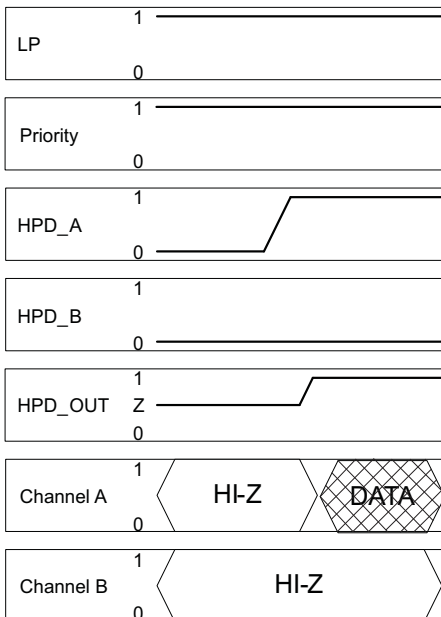

Figure 38.
- Case two: In this case both HPD inputs are initially LOW and the low power pin is HIGH. In this initial state the device is in a low power mode. Once one of the HPD inputs goes to a HIGH state, the device comes out of the low power mode and enters active mode enabling the main link and auxiliary I/O. The port associated with the HPD input that went HIGH is selected and the HPD output to the source is enabled and follows the logic state of the input HPD (see Figure 38). This is specified as  $t_{Z(HPD)}$ . Again, the state of the Priority pin has no effect in this scenario as only one HPD input port is active.